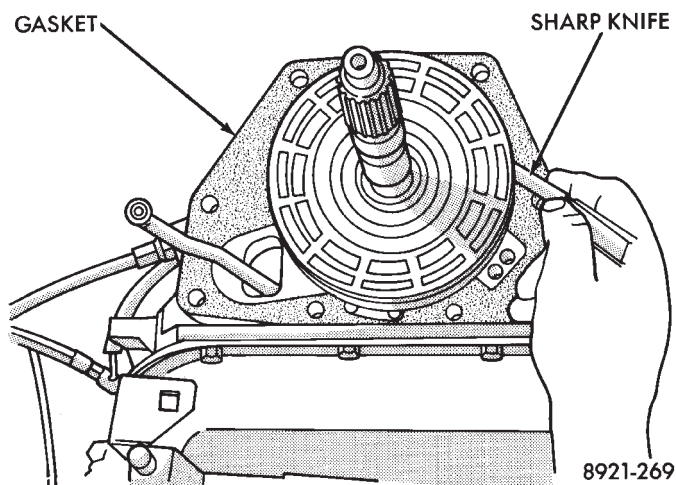

Fig. 33 Trimming Overdrive Case Gasket
(1) Be sure overdrive unit Alignment Tool 6227-2 is fully seated before moving unit. If tool is not seated and gear splines rotate out of alignment, overdrive unit will have to be disassembled in order to realign splines.
(2) If overdrive piston retainer was not removed during service and original case gasket is no longer reusable, prepare new gasket by trimming it.
(3) Cut out old case gasket around piston retainer with razor knife (Fig. 33).
(4) Use old gasket as template and trim new gasket to fit.
(5) Position new gasket over piston retainer and on transmission case. Use petroleum jelly to hold